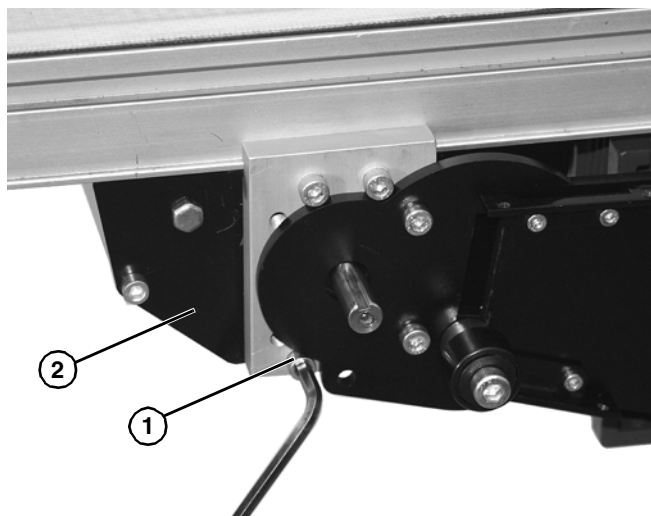

Figure 51
2. Remove two M6x25 socket head screws (Figure 51, item 1) from bottom of mid drive assembly (Figure 51, item 2).